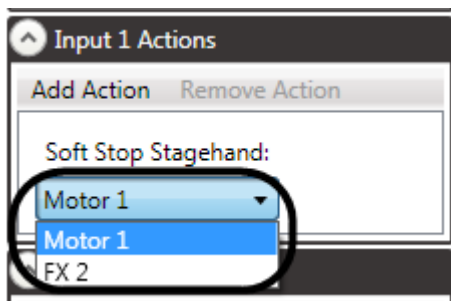

Figure 109
4. From the **Soft Stop Stagehand** drop down menu, select the FX or Motor that should be soft stopped when the FX Input is closed (Figure 109).